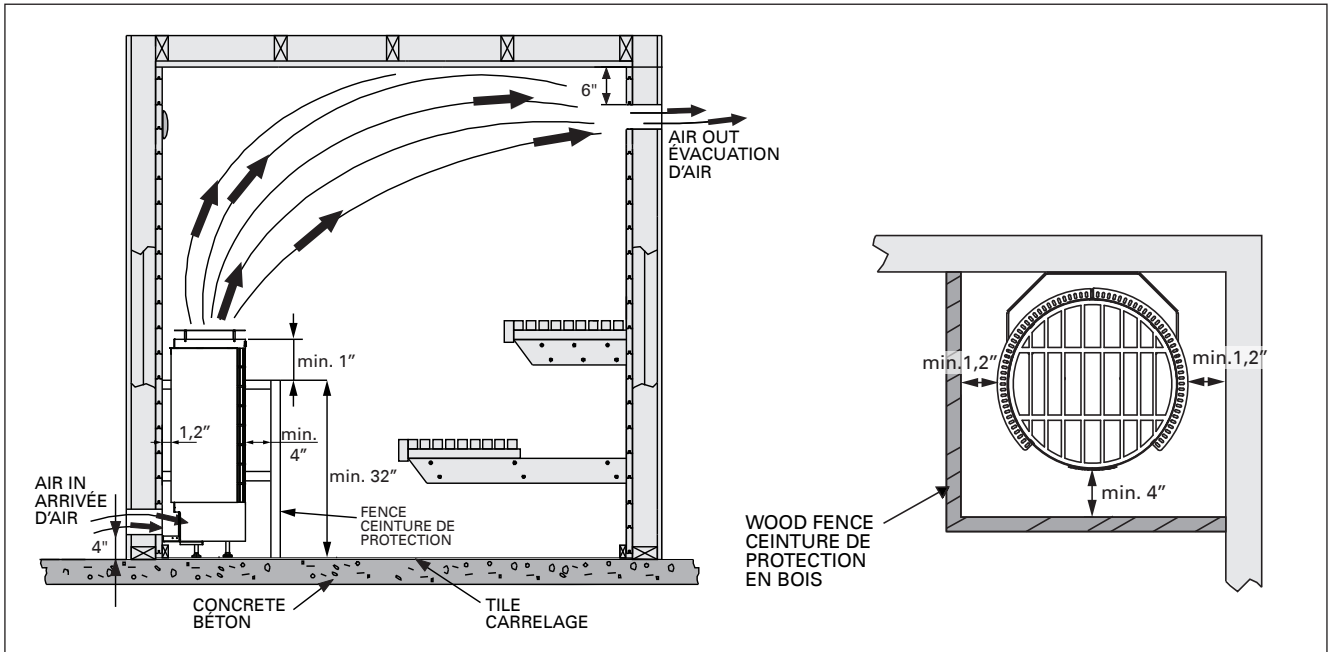

Figure 3. Ventilation of the sauna room and min. clearances from wall and fence
Should be provided by lower vent close to heater, 4" (100 mm) from floor, and upper vent on opposite wall (if possible) 6" (150 mm) from ceiling or as low as 24" (600 mm) from floor. Vents should be adjustable and should allow air to change 5 times per hour. Sauna shall be provided with intended ventilation as required per the local code authorities. See figure 3.
The minimum safety distances are described in figure 3 and 5.
It is necessary for safety and should be constructed of softwood to match sauna interior. See figures 3 and 5 for clearances from sauna heater. Fence should be attached to wall and should not be placed higher than top of heater below rock line.
1. Remove heater from carton and place in proper location in sauna room. Observe proper clearances as per figures 3 and 5. After final hookup, electrical contractor should secure heater to floor with at least two screws or bolts.